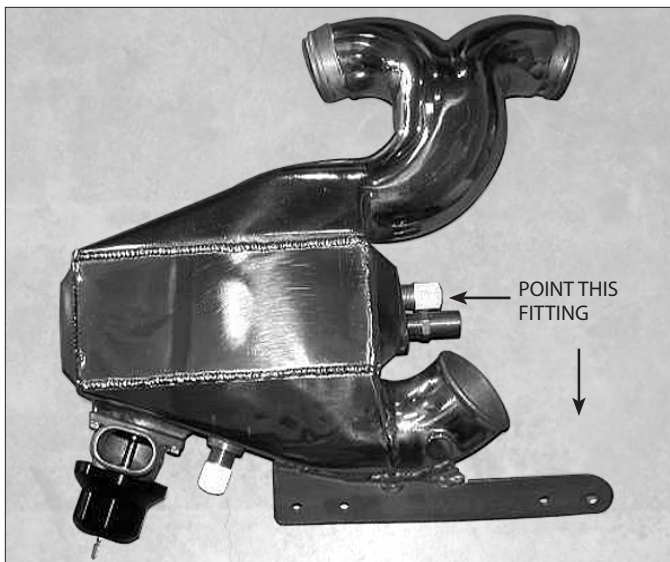

Fig. 9-a
4. Using sealant, install a 3/4" 90° fitting in the 1/2" NPT hole near the bypass valve and point it so that it will be facing towards the back of the car when the cooler is installed. (See Fig. 9-a.)